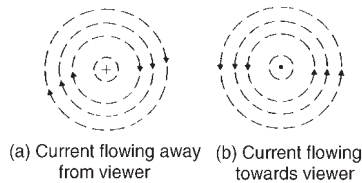

Figure 8.3
When dealing with magnetic fields formed by electric current it is usual to portray the effect as shown in Figure 8.3. The convention adopted is:
- (i) Current flowing away from the viewer, i.e. into the paper, is indicated by \odot . This may be thought of as the feathered end of the shaft of an arrow. See Figure 8.3(a).
- (ii) Current flowing towards the viewer, i.e. out of the paper, is indicated by \ominus . This may be thought of as the point of an arrow. See Figure 8.3(b).
For example, with current flowing away from the viewer (Figure 8.3(a)) a right-hand thread screw driven into the paper has to be rotated clockwise. Hence the direction of the magnetic field is clockwise.
If the current-carrying conductor shown in Figure 8.3(a) is placed in the magnetic field shown in Figure 8.13(a), then the two fields interact and cause a force to be exerted on the conductor as shown in Figure 8.13(b). The field is strengthened above the conductor and weakened below, thus tending to move the conductor downwards. This is the basic principle of operation of the electric motor (see Section 8.4) and the moving-coil instrument (see Section 8.5).